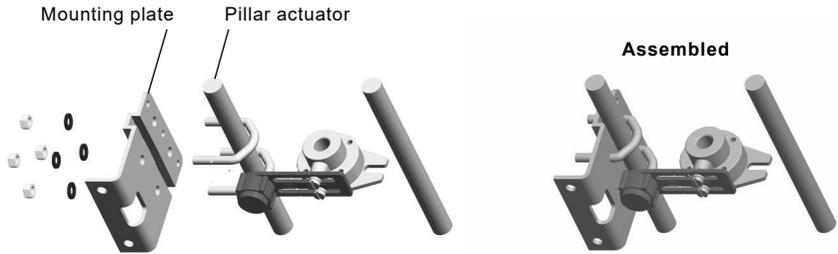
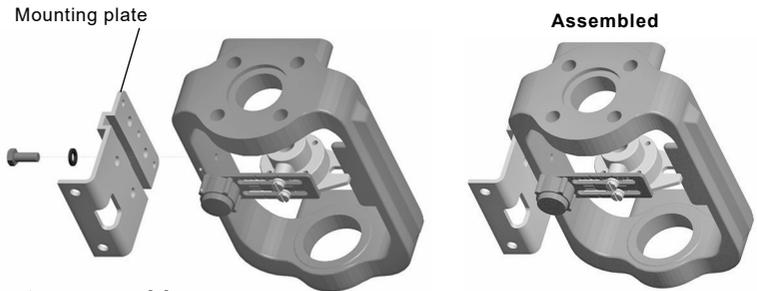

Fig. 9 Pillar actuator assembly
Fig. 10 Yoke actuator assembly
5.2.4 Loosely attach the positioner mounting plate to the actuator as shown in the following pictures: for the pillar actuator (Figure 9), and for the yoke actuator (Figure 10).
- 5.2.7** Adjust the vertical position of the SP400 positioner and mounting plate assembly, by sliding it up or down on the pillar style actuators, ensuring that the positioner is roughly centred on the actuator/valve stroke (Figure 10).